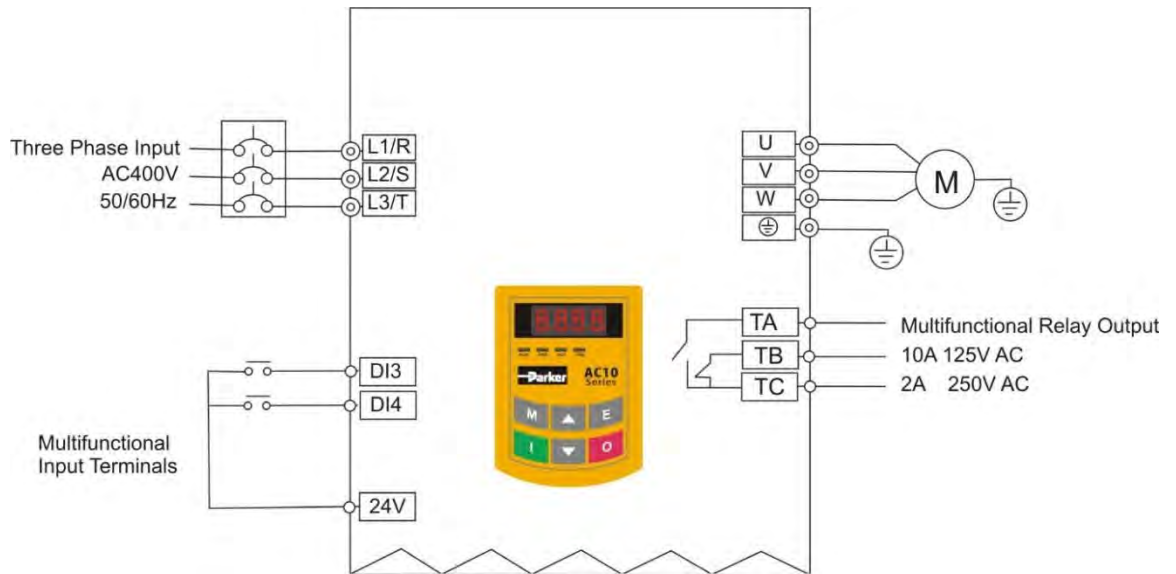

Figure 8-2 Wiring Diagram 2
- i. Connect the wires in accordance with Figure 8-2. After having checked the wiring successfully, switch on the main switch, and power on the inverter;